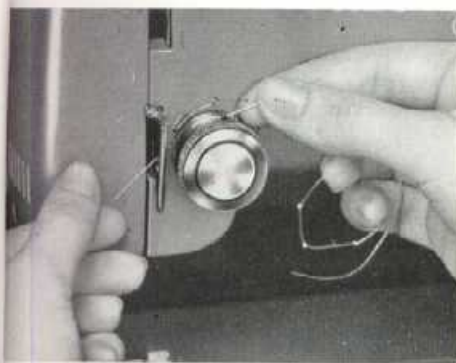

Fig. 18
- a) Insert nylon thread into slot of upper tension as shown in Fig. 18.